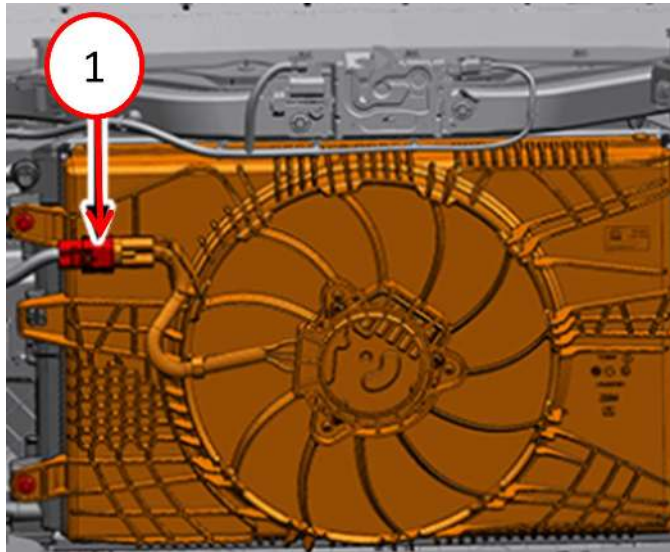

Fig. 1
4. Disconnect the cooling fan wire harness connector Fig. 1.**
18. **Connect the cooling fan wire harness connector Fig. 1.